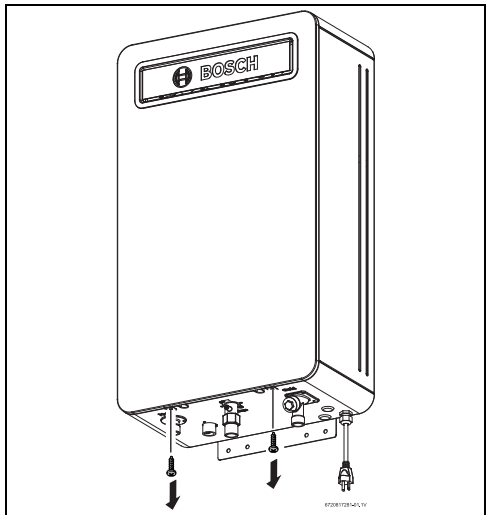

Fig. 3 Loosen two Phillips head screws
- ▶ Loosen two Phillips head screws located on bottom of cover (fig. 3).